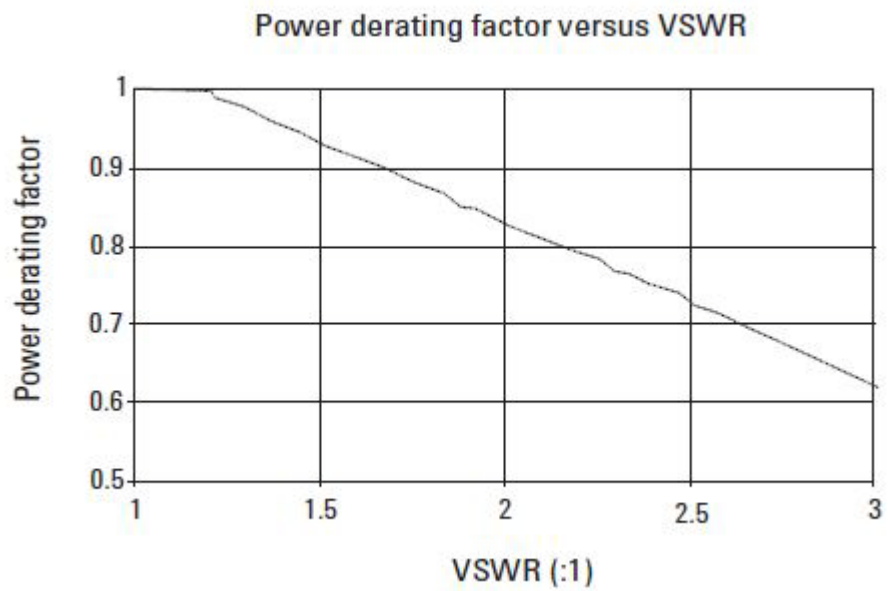

Figure 6 Power derating factor vs VSWR
- Low VSWR < 1.2 (See Figure 6 for derating above 1.2 VSWR)